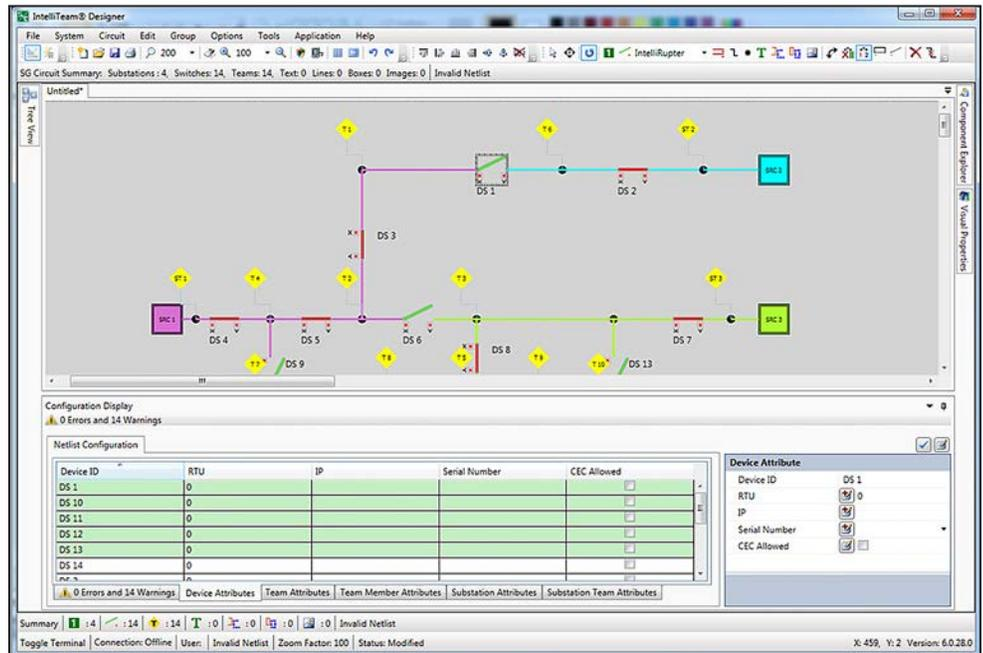

Figure 64. Shift click to highlight a range of devices.
**STEP 5.** Highlight the range of devices to automatically enter a value for. Click on the first device, and shift-click the last device to establish a range. See Figure 64. To enter a group of individual devices, control-click the devices or use control-A to select all lines. See Figure 65 on page 74.